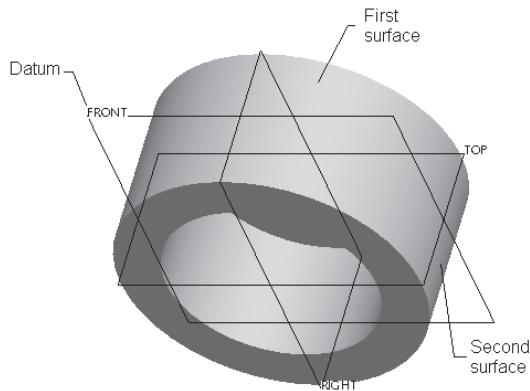

Figure 7-45 Selections to make on the model
4. Use CTRL+left mouse button and select the top and the bottom circumferential surface of the cylindrical feature, as shown in Figure 7-45.